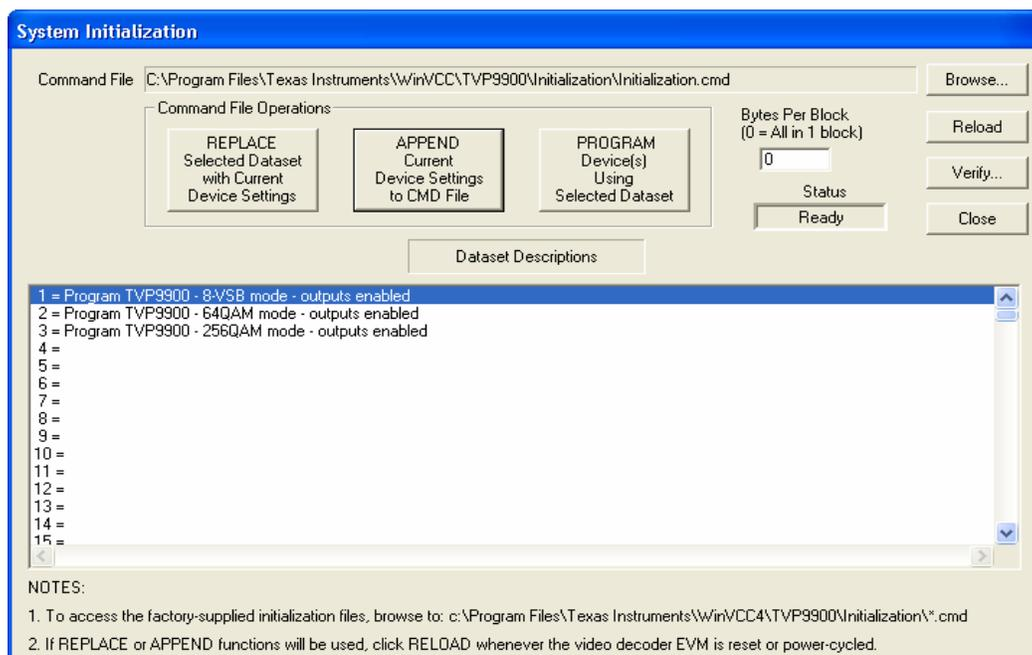

Figure 5. WinVCC – System Initialization
6. In the System Initialization Window, shown in Figure 5, click the "Program TVP9900 - 8-VSB mode - outputs enabled" dataset in the window and then click *PROGRAM Device(s) Using Selected Dataset* to initialize the TVP9900EVM for 8-VSB mode. The 64QAM mode and 256QAM mode can be set up by using the other datasets in this command file.